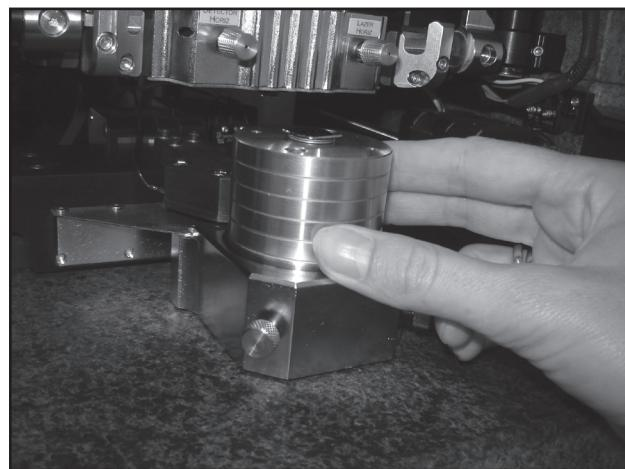

Figure 2.20: Remove Puck
5. Being careful not to touch the probe, lift the sample puck out of the pin hole [see Figure 2.20].